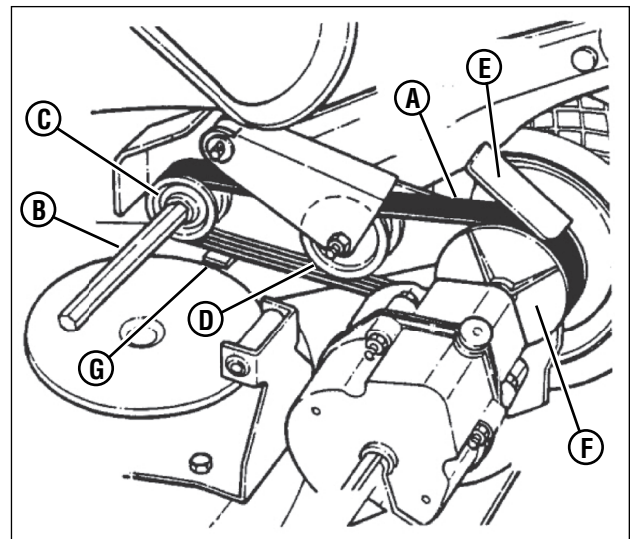

Figure 34: Poly-v belt routing
3. Place the new Poly-V Belt (**A**, **Figure 34**) over the end of the hex shaft (**B**) and onto the drive pulley (**C**).